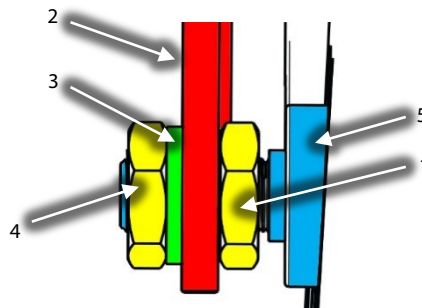

Figure 10 – Outer Nut Installation
17. Install the two (2) connectors onto the Thermistor Sensor Feedthroughs.
18. Thread one (1) nut onto the outer side of each of the three (3) High-Power Feedthroughs. Thread each nut by hand until it is seated against the feedthrough, then back off the nut at least one (1) full revolution. Do not torque the inner High-Power Feedthrough Nuts. Refer to Figure 10 (Outer Nut Installation).
20. Install the three (3) Bus Bar to Inverter fasteners through the copper tubes. Initially thread the fasteners into the Inverter by hand. Torque to 14 Nm (10 ft.lb.).
21. Back out the three (3) inner High-Power Feedthrough Nuts until they rest against the Bus Bars.